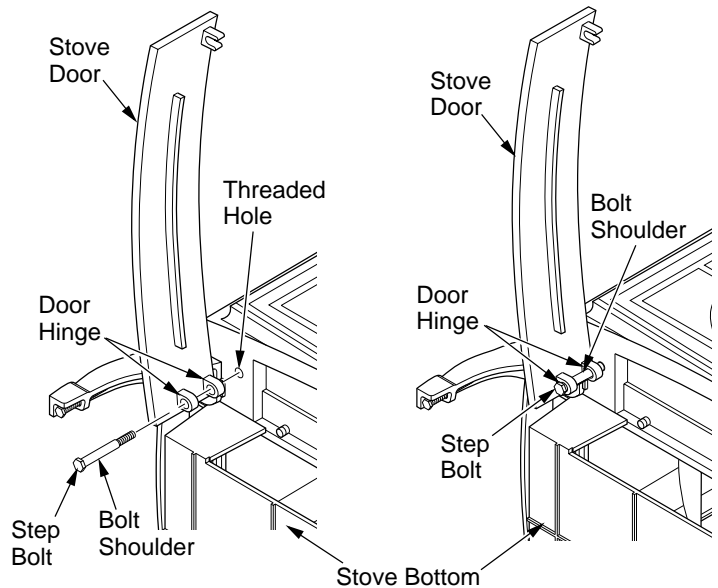

Figure 11 - Attaching Stove Door (Appearance May Vary Depending on Model)
10. Attach stove door by inserting step bolt through door hinge pivot holes and into threaded hole in stove body (see Figure 11). Use an adjustable wrench or a 12mm socket to fasten step bolt. Tighten step bolt until snug. Make sure door moves freely.